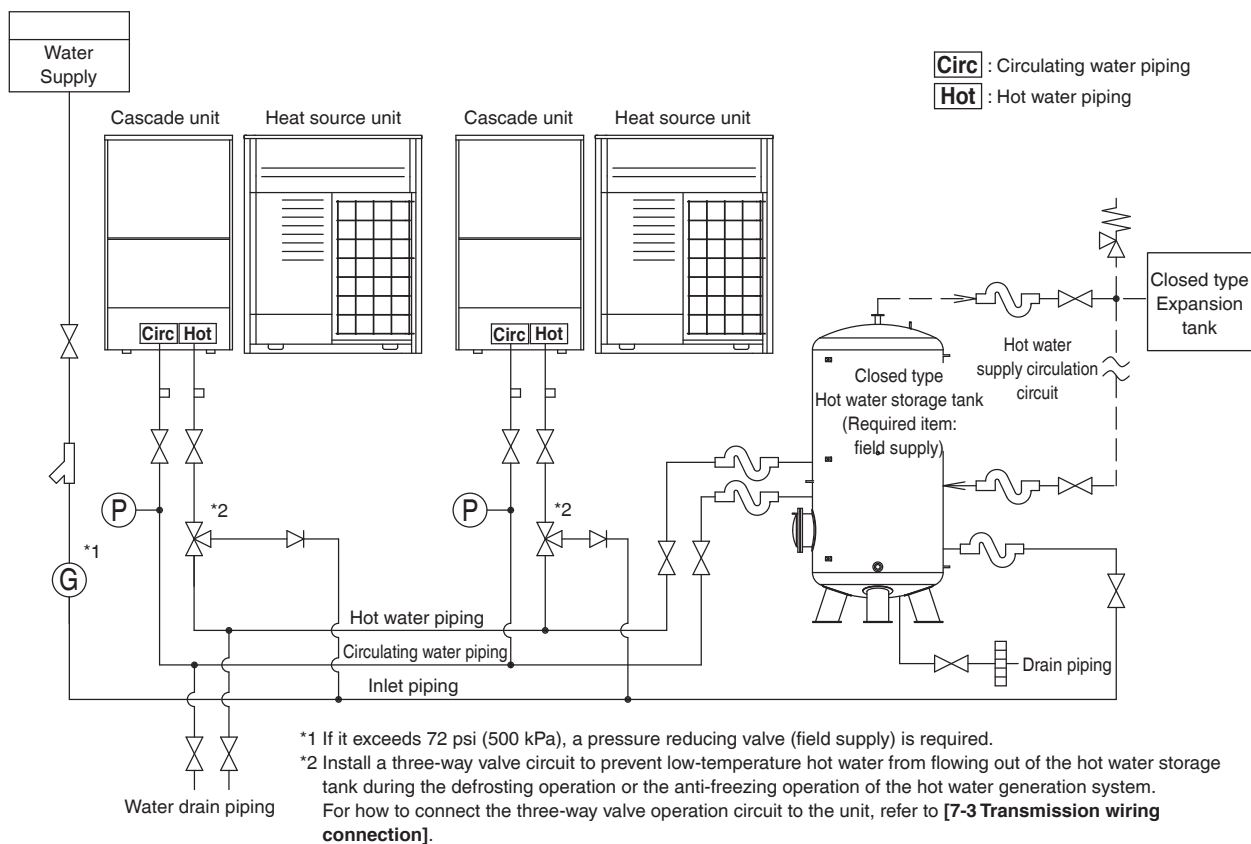

Fig. 14
- Fig. 14 shows examples of installation when 2 Mega-Q systems are connected.